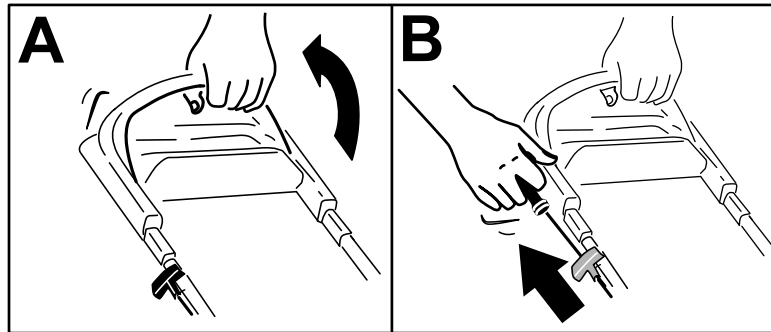

Figure 14
1. Pull the blade-control bar to the handle and hold it (A of Figure 14).
2. Pull the recoil-start handle (B of Figure 14) lightly until you feel resistance, then pull it sharply, and allow it to return to the rope guide on the handle slowly.